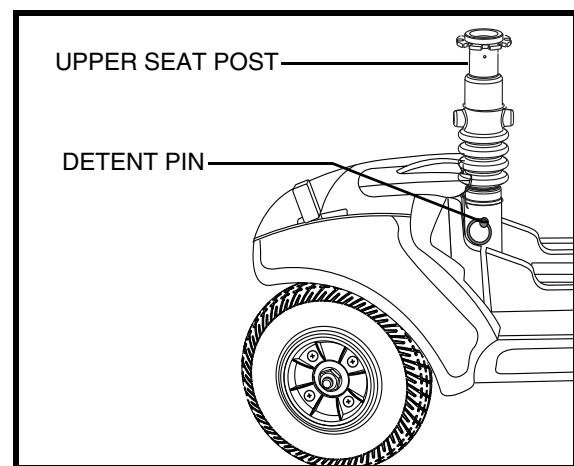

Figure 18. Seat Height Adjustment
The seat can be repositioned to different heights. **See figure 18.**
2. Remove the upper seat post from the Travel Scooter by removing the detent pin from the lower portion of the seat post, then lifting the post straight up and off the Travel Scooter. **See figure 18.**